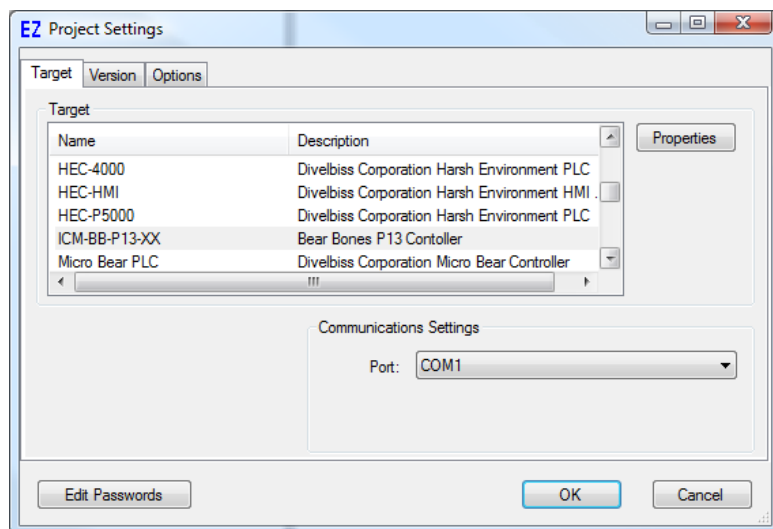

Figure 1-1 - Project Settings Window
1. In EZ LADDER, from the File Menu at the top, click **PROJECT** then **SETTINGS**. This will open the Project Settings Window. Select **ICM-BB-P13-XX** as the target from the choices. Refer to Figure 1-1. Verify the correct COM Port is selected.